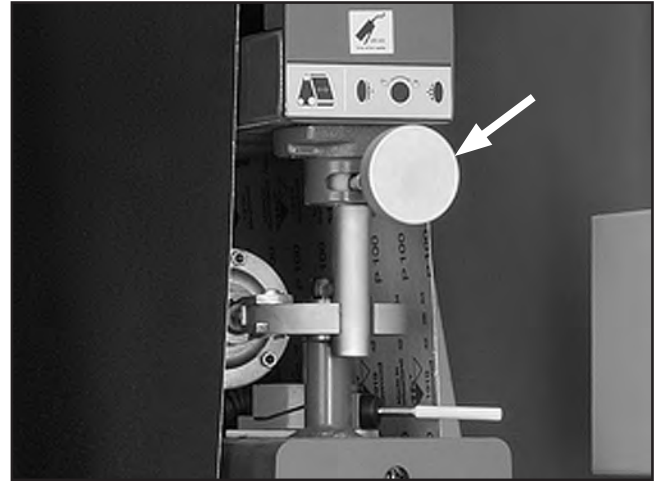

Figure 28. Oscillation adjustment knobs.
- If the oscillation time to the **right** is 2 seconds, but the oscillation time to the **left** is longer, loosen the oscillation adjustment knob (**Figure 28**) and move it to the **left** until proper tracking is achieved. Tighten down the oscillation adjustment knob when satisfied.